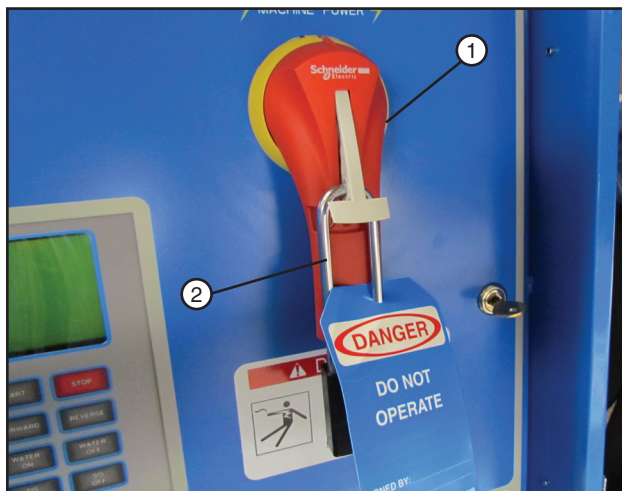

Figure 62-2 1. Main Disconnect
2. Turn the power off at the main disconnect and secure with a lock. See figure 62-2.